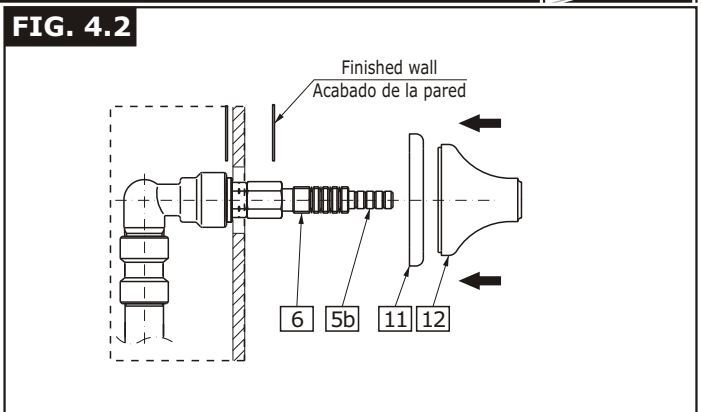

FIG. 4.2
- Screw on the extension (6) onto the cartridge (5b) – see fig. 4.2.
- Insert handle base (11) over extension (6). Holding the handle base (11) screw on the shroud (12) onto the extension (6) until it rests against base. Do not overtighten. Measure (or mark-up) the protruding thread on the extension (6) – see fig. 4.2 & 4.3.